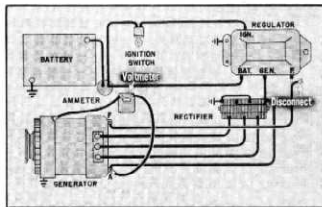

Fig. 39
6. With voltmeter connected to "A" terminal of generator (fig. 39) a reading of battery volt-